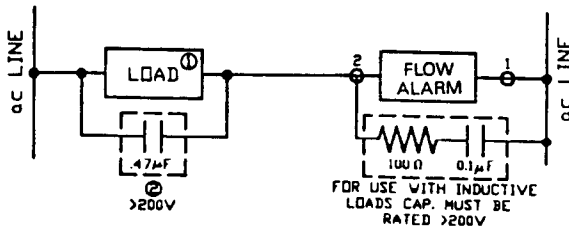
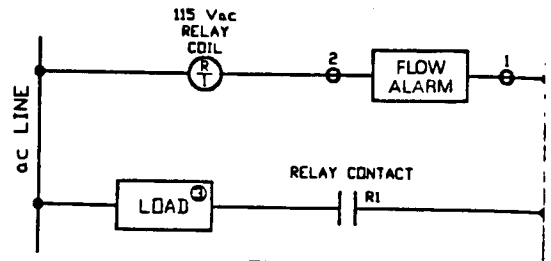

Fig. 5
Fig. 6
The FL9000-AC is designed to turn "on" or "off" a variety of different 115VAC loads. Examples of loads include: Solenoid valves, warning lights and AC relay coils. The module can only switch loads that consume between 2.5 and 90 watts, or have 5000Ω to 150Ω impedance respectively. If the load draws less than 2.5 watts, a loading capacitor is required. The capacitor's value and connection is demonstrated in Figure 5. If the load draws greater than 90 watts, a power relay is necessary. Figs. 6 and 7 show typical relay connections.
1. Conventional Connection: See Fig. 5
The Schematic in Fig. 5 will provide conduction over 15-20% of full scale above, or below the flow rate set point.
- 1 Load must draw between 2.5 and 90 watts. For loads smaller than 2.5 watts, see #2. For loads greater than 90 watts, see Figs. 6 and 7.
2. Conventional Relay Connections: See Fig. 6
Fig. 6 demonstrates a SPDT relay with a 115 VAC coil integrated with a flow alarm module. This combination allows switching of loads up to the rating of the relay contacts.